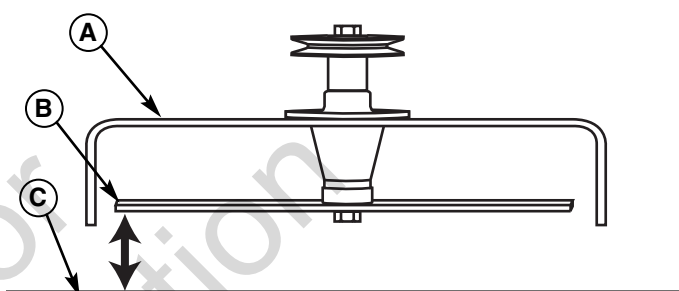

Figure 36. Measure Blade Tips to Ground
5. Measure the distance between the tips of the outside blades and the ground (see Figure 36). If there is more than 1/8" (3 mm) difference between the measurements on each side, proceed to Step 6. If the difference is 1/8" (3 mm) or less, proceed to Front To Back Leveling.